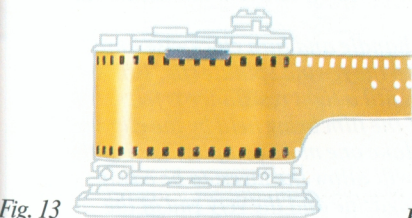

Fig. 13
- Thread the leading end of the film over the black pressure plate and under the right film guide (fig. 13).